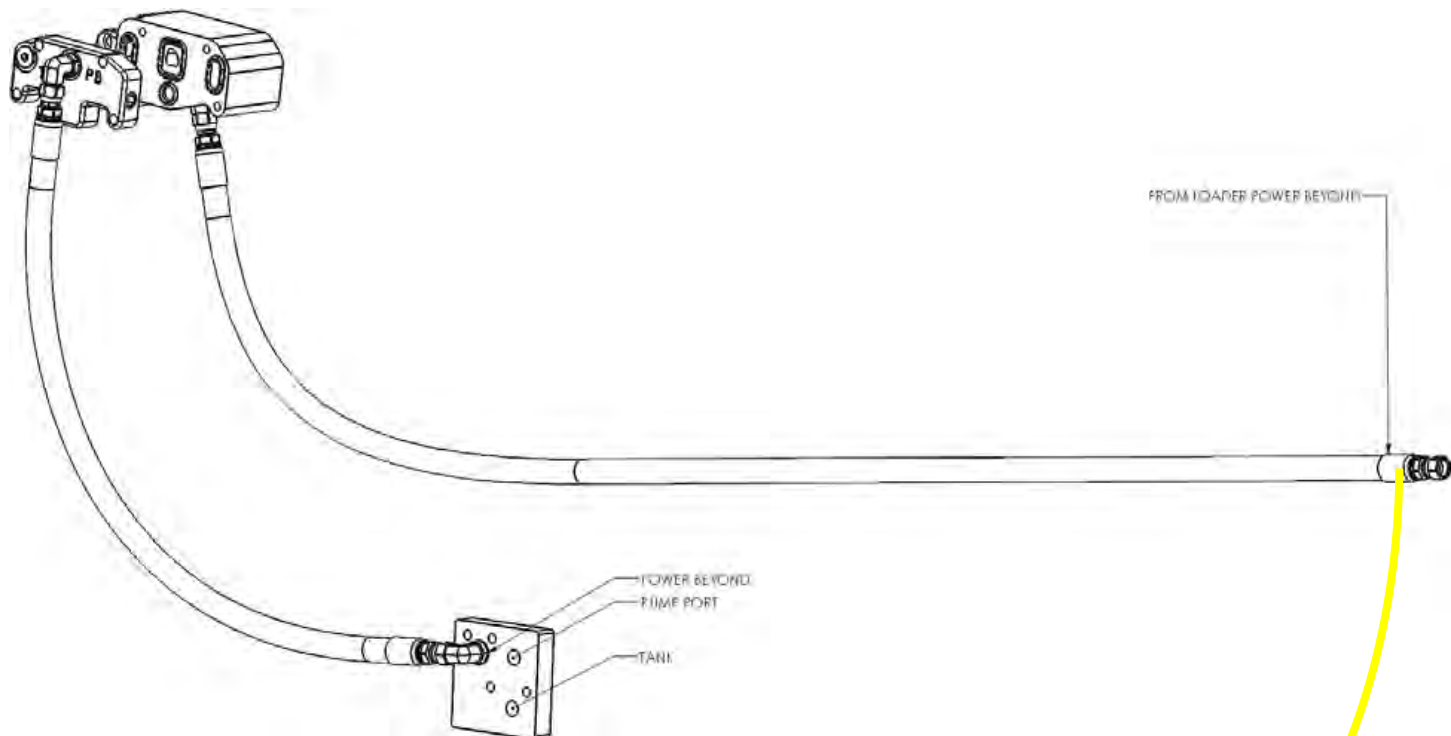

Figure 19: Inlet/Outlet section plumbing
23. Install the 90 degree fitting (Ref. 10) to the 37" return hose and mount to the power beyond port on the front auxiliary block. See Figure 19.
4. The same 65" hose (Ref. 08) will be used for the remote valves. See Figures 19 and 20 for installation.